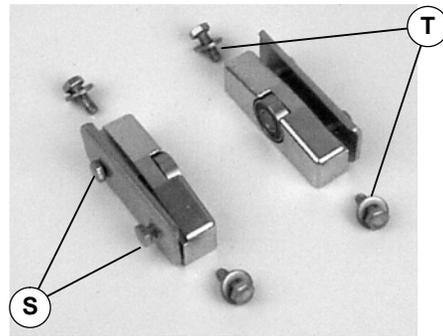

Figure 13
2. Loosen screws (S of Figure 13) and remove screws and washers (T).